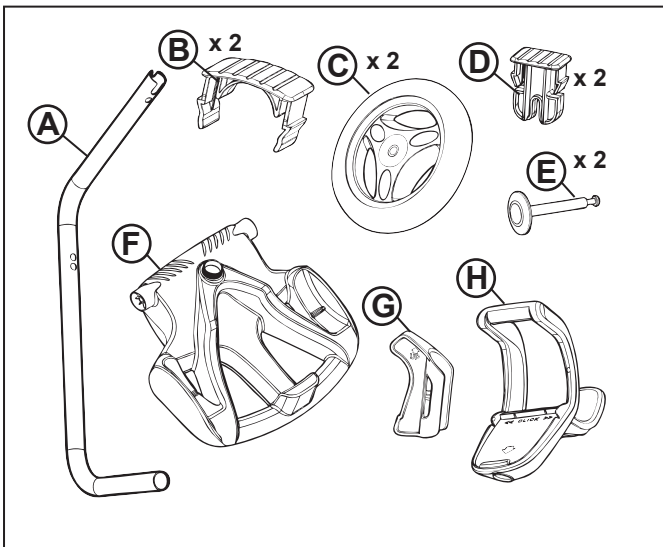

Figure 1. Transport Caddy Assembly Components
- Transport and storage caddy components, depending on the model (see Figure 1)